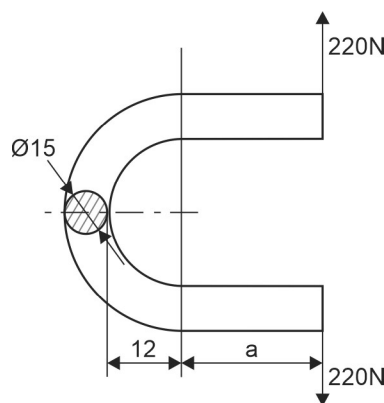

Fig. M1.33
b. A small hand operated punching machine has a circular cross-section of 15 mm diameter and is loaded as shown in **Fig. M1.33**. Taking the permissible stress in tension as 55 MPa for the material, determine the largest allowable distance a from the line of action of 220 N forces to the plane contacting the centre of curvature of the punch. (10 Marks)